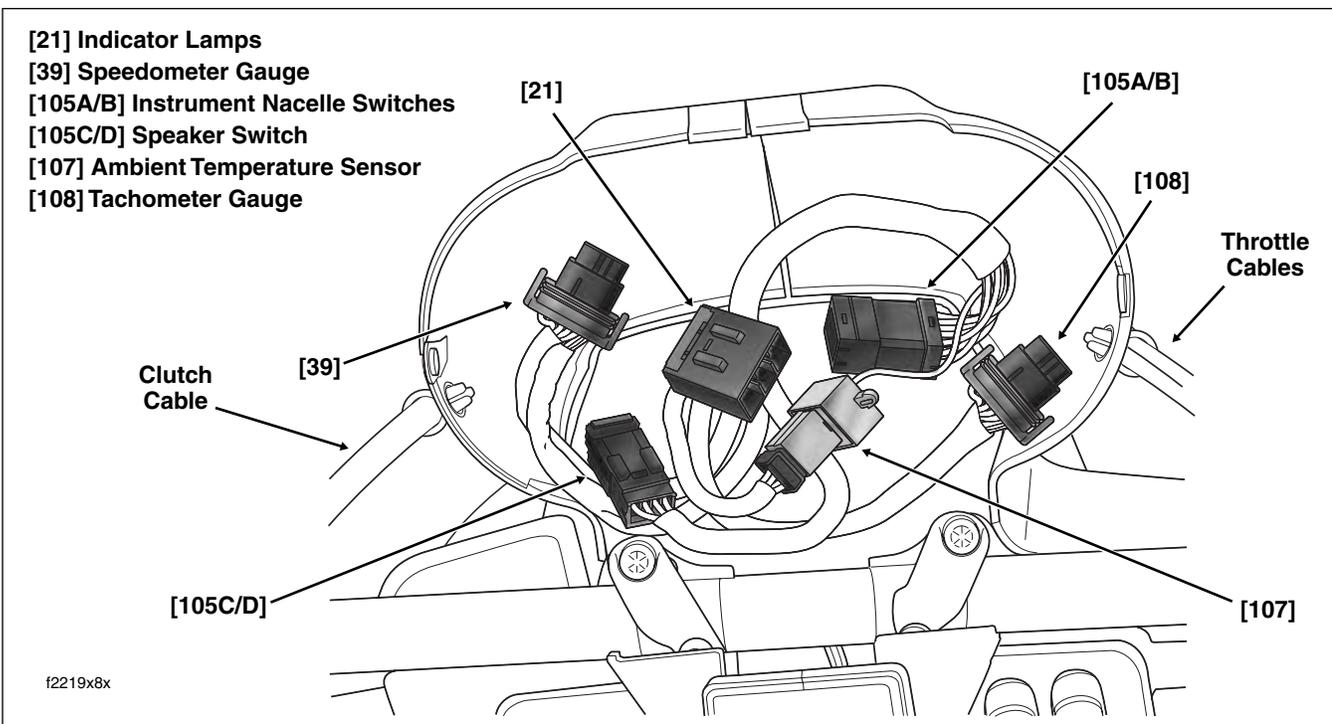

Figure 8-83. Instrument Nacelle (Bezel Removed)
- See Figure 8-83. Disconnect instruments and indicator lamps from interconnect harness as follows:
- See Figure 8-83. Disconnect left side switch from instrument nacelle switch harness as follows:
- See Figure 8-83. Disconnect instrument nacelle switches from interconnect harness as follows:
- d. See Figure 8-83. Connect left side switch to instrument nacelle switch harness as follows:
- f. See Figure 8-83. Connect left side switch to instrument nacelle switch harness as follows:
- g. See Figure 8-83. Connect instrument nacelle switches to interconnect harness as follows:
2. See Figure 8-83. Looking into the instrument nacelle, connect instruments and indicator lamps to interconnect harness as follows: